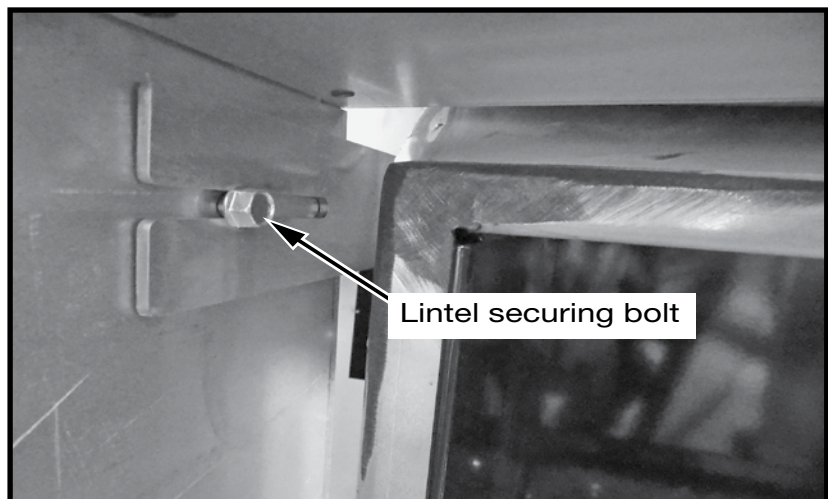

Figure 24: Upper left securing bolt.
4. Loosen the securing bolts in the upper and lower corners on each side of the lintel (Figure 24) and remove the lintel. Rotate the assembly to have the desired edge away from the fireplace.